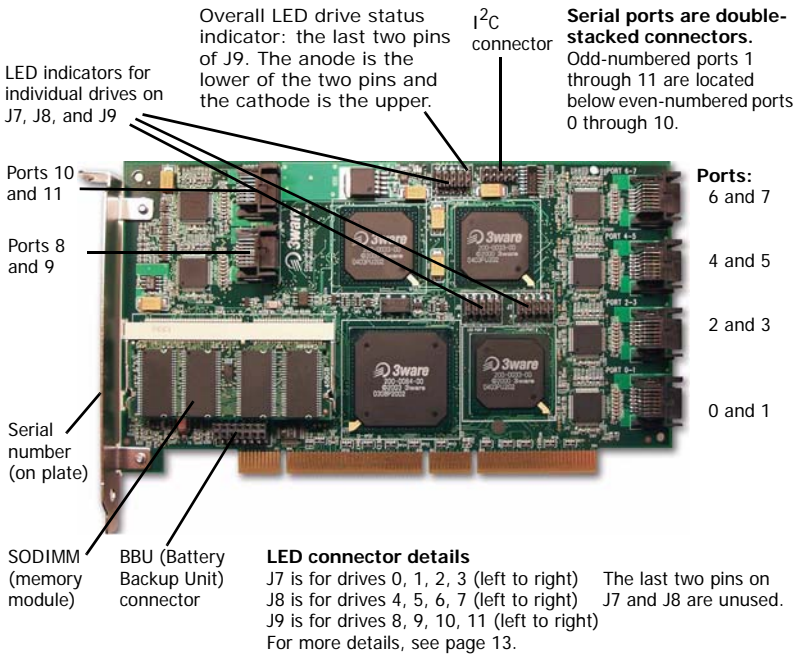

Figure 1. 12-Port 3ware 9500S-12 Serial ATA RAID Controller
Figure 1 shows a 3ware Serial ATA RAID controller with twelve ports. Up to twelve drives can be attached to this particular controller, through serial ATA cables.
As shown in Figures 1 through 5, LED connectors for individual drives are on J7, J8, and J9 for the full size cards, and on J3 for the half-size 4-port card.
- 3 (Optional) Connect the drive activity LED connectors. See the connection details on Figure 1.